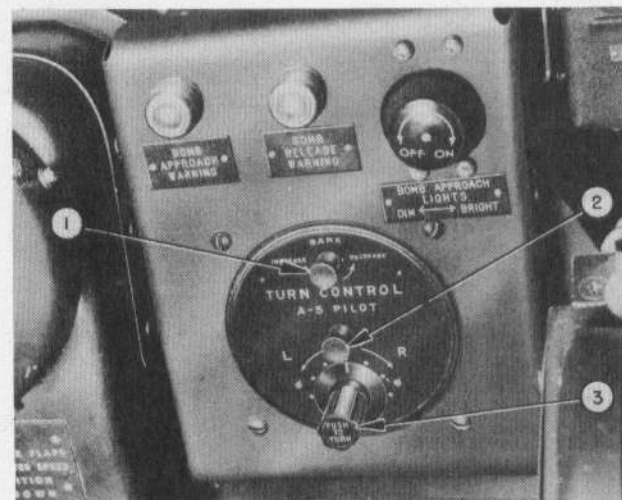

Figure 23—Type A-5 Bank and Turn Control
a. If the meter needle shows left deflection, turn the rudder alignment knob (Center knob on A-5, turn and bank control) clockwise until the meter needle is centered (see figure 23).